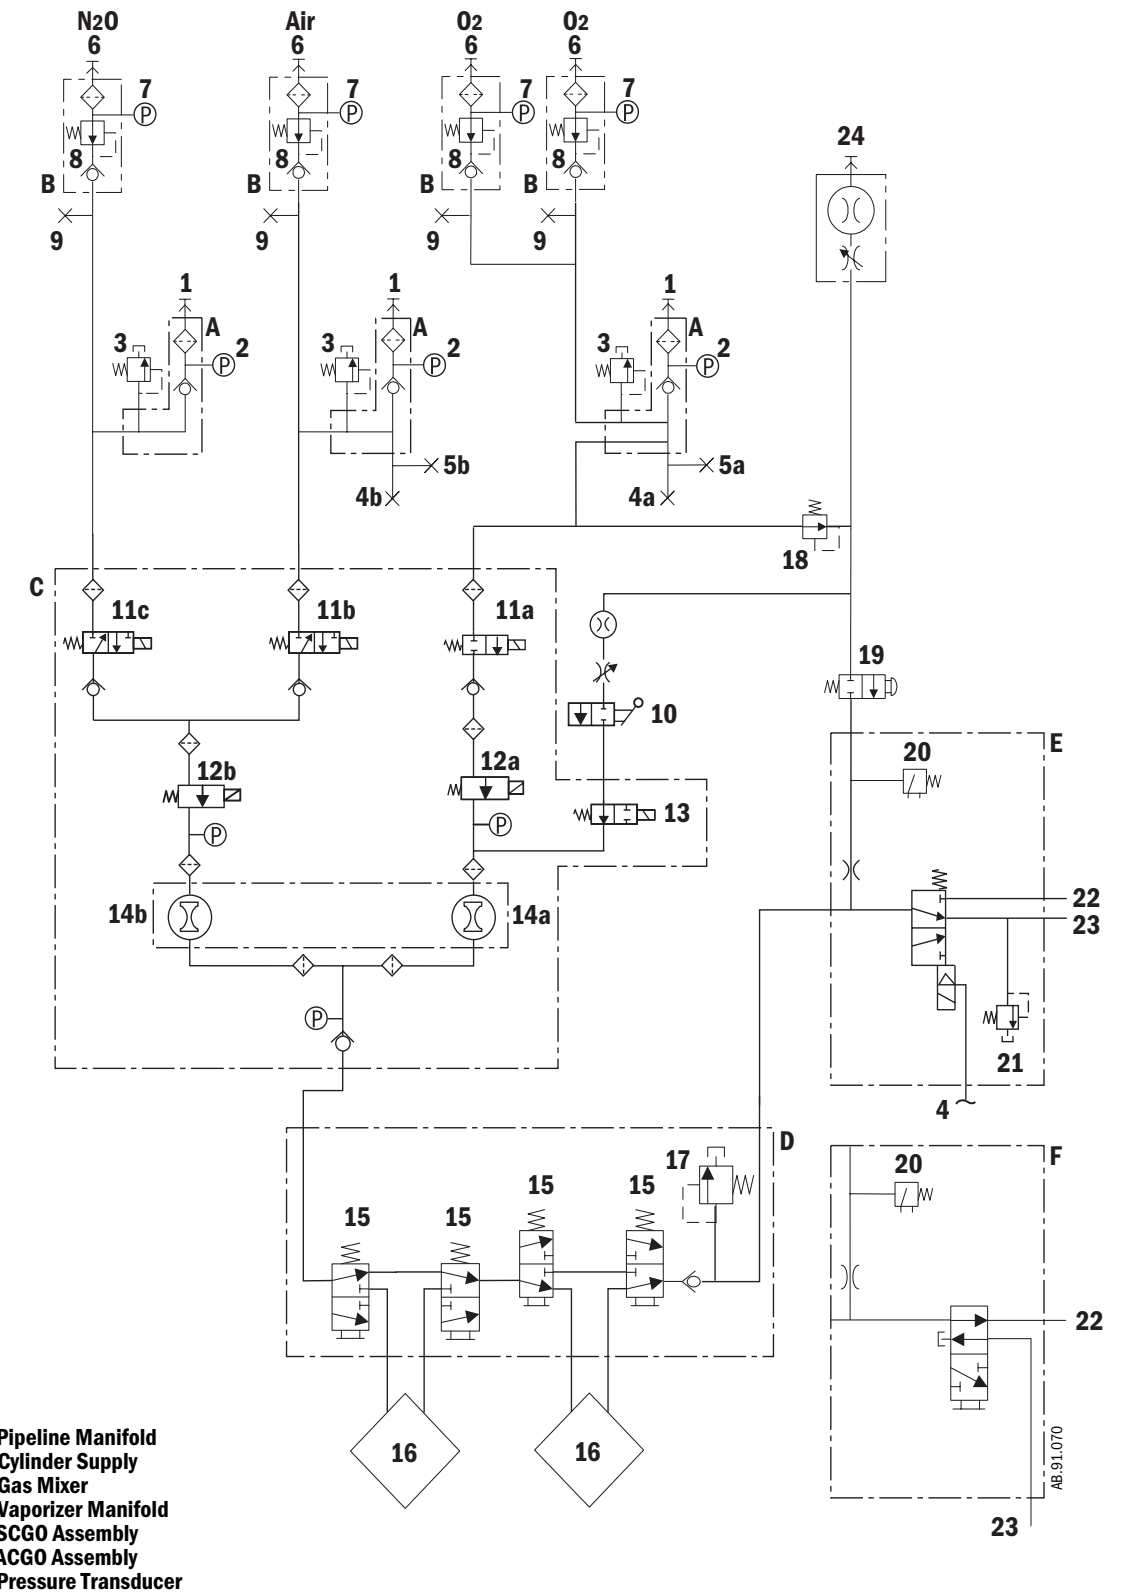

Figure 11-3 • Pneumatic circuit diagram
- Figure 11-3** Pneumatic circuit diagram 11-4